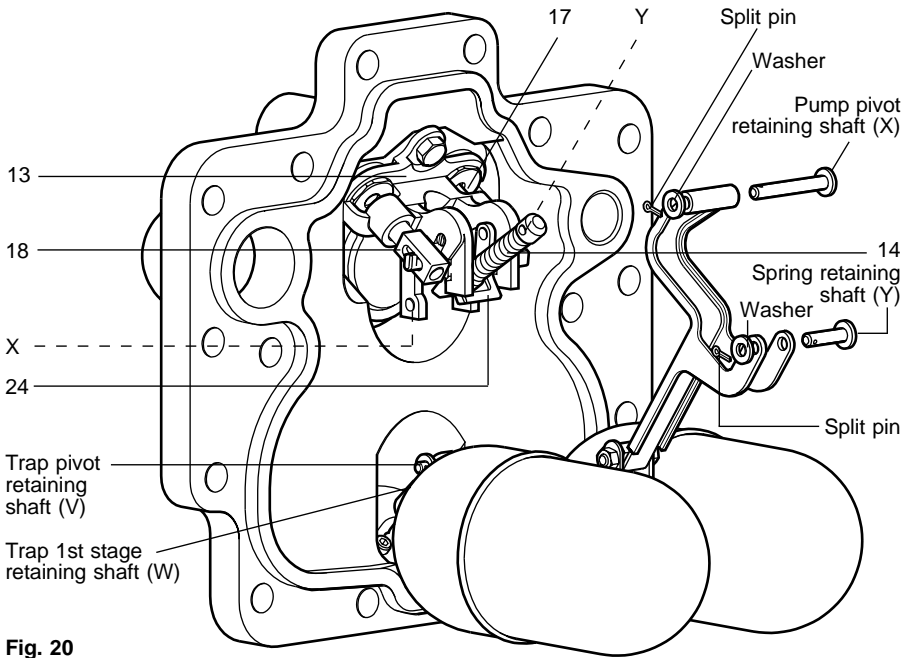
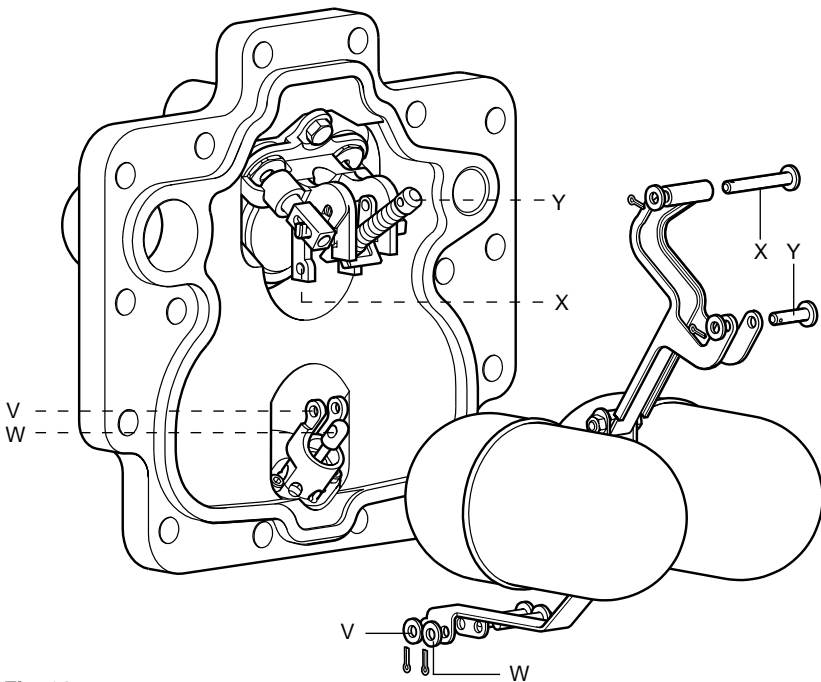

Fig. 20
Fig. 21
3. Remove a split pin and washer from one side of the spring retaining shaft (Y) (See Fig. 20).
4. Remove a split pin and washer from one side of pump pivot retaining shaft (X).
5. Carefully slide the shafts out from their respective positions observing the orientation of the spring and actuator arm (item 14, 24) within the pump bracket (item 13) as these will need to be refitted later.
6. Remove a split pin and washer from one side of the trap 1st stage valve retaining shaft (W).
7. Remove a split pin and washer from one side of the trap pivot retaining shaft (V).
10. It is easier to fit the replacement shafts in the following sequence:- (See Fig. 21).
- Y. **Spring retainer** (shaft length 30 mm)leaving the spring retaining shaft until after the spring and actuator arm have been correctly aligned and located within the slot of the pump bracket (item 13).